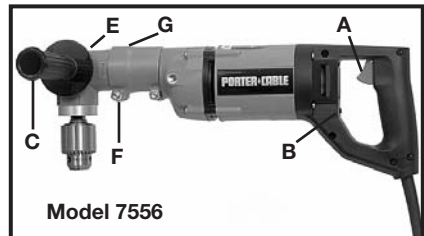

Fig. 2
An auxiliary handle (C) Fig. 2, is supplied and can be installed on either side of the tool. This handle screws directly into the drill housing providing complete control of the drill.
2. Squeeze TRIGGER SWITCH (A) Fig. 2, to start motor. As trigger is squeezed, the drill speed increases. Release trigger to stop motor.
3. A REVERSING SWITCH (B) Fig. 2 – is provided with either model. These models will operate in either the forward direction (clockwise rotation) for drilling holes, or the reverse direction (counterclockwise rotation) for releasing jammed drill bits. For counterclockwise rotation, stop the motor by releasing the trigger switch and move the reversing switch to the position labeled "R", or in the opposite direction for clockwise rotation.
6. Loosen the outer sleeve screw (F) Fig. 2 with a $\frac{1}{2}$ " wrench, and remove the right angle drive (E) Fig. 2, from the sleeve (G) Fig. 2.
7. Place end of right angle drive marked "LOW" into sleeve (G) Fig. 2. Make sure the flats on the driveshaft engage slot in coupling. Tighten sleeve screw (F) Fig. 2.
An auxiliary handle (C) Fig. 2, is supplied with each drill.
2. Set REVERSING SWITCH (B) Fig. 2 for clockwise rotation.